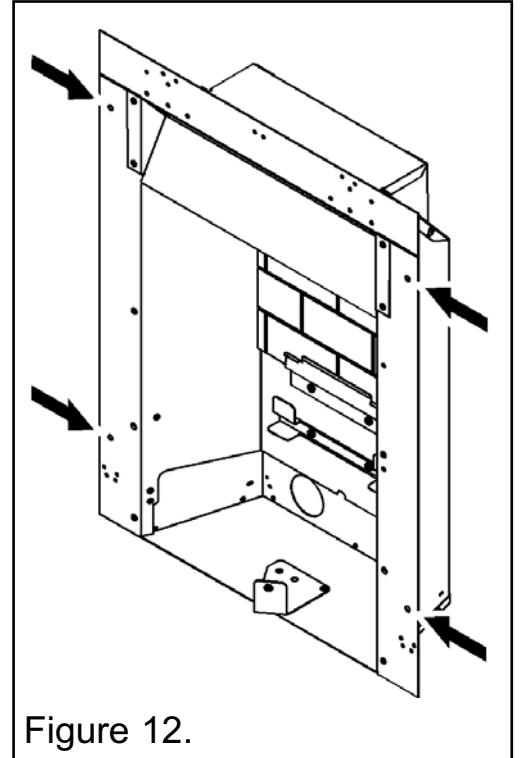

Figure 12.
3. Mark the fireplace front surround through the four fixing holes in the side flanges of the convection (See figure 12).